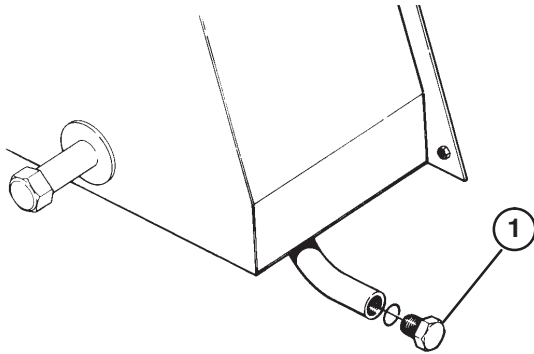

Figure 40
1. Open drain plug (Fig. 40) one-half turn and allow fluid to flow into drain pan until water is not noticed in hydraulic oil.
1. Remove drain plug (Fig. 40) from reservoir and let hydraulic oil flow into drain pan. Tighten plug when hydraulic oil stops draining.